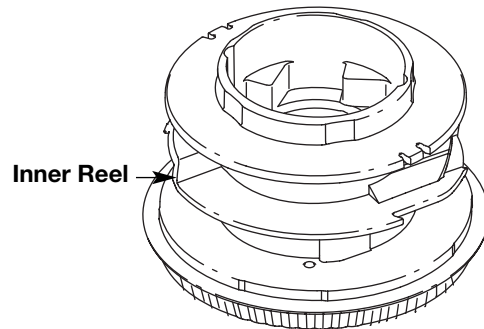

Fig. 24
3. Remove any existing line from the inner reel before cleaning. Remove any debris or grass from the knob, spring, inner reel and foam seal. Wash the inner reel with warm soapy water (Fig. 24).